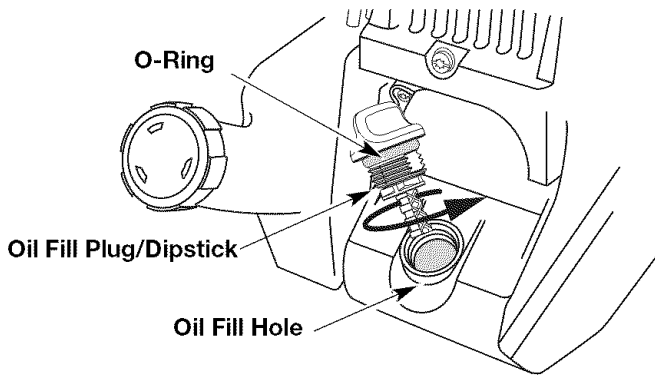

Fig. 16
- If the level is low, add a small amount of oil to the oil fill hole and recheck (Fig. 16). Repeat this procedure until the oil level reaches the top of the dipstick.
**NOTE:** Make sure the O-ring is in place on the oil fill plug/dipstick when checking and changing the oil (Fig. 16).